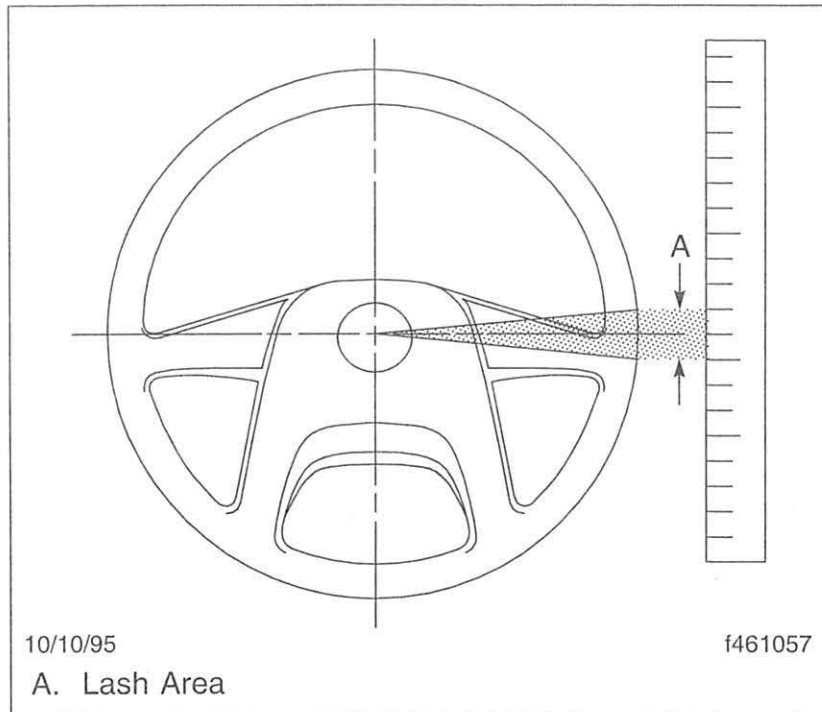

Fig. 11.8, Measuring Lash at the Steering Wheel
20. Check the steering wheel for excessive play. With the front tires straight ahead, turn the steering wheel until motion is observed at the front wheels. Align a reference mark on a ruler, then slowly turn the steering wheel in the opposite direction, until motion is again detected at the wheels. Measure the lash (free-play) at the rim of the steering wheel. See **Fig. 11.8**.